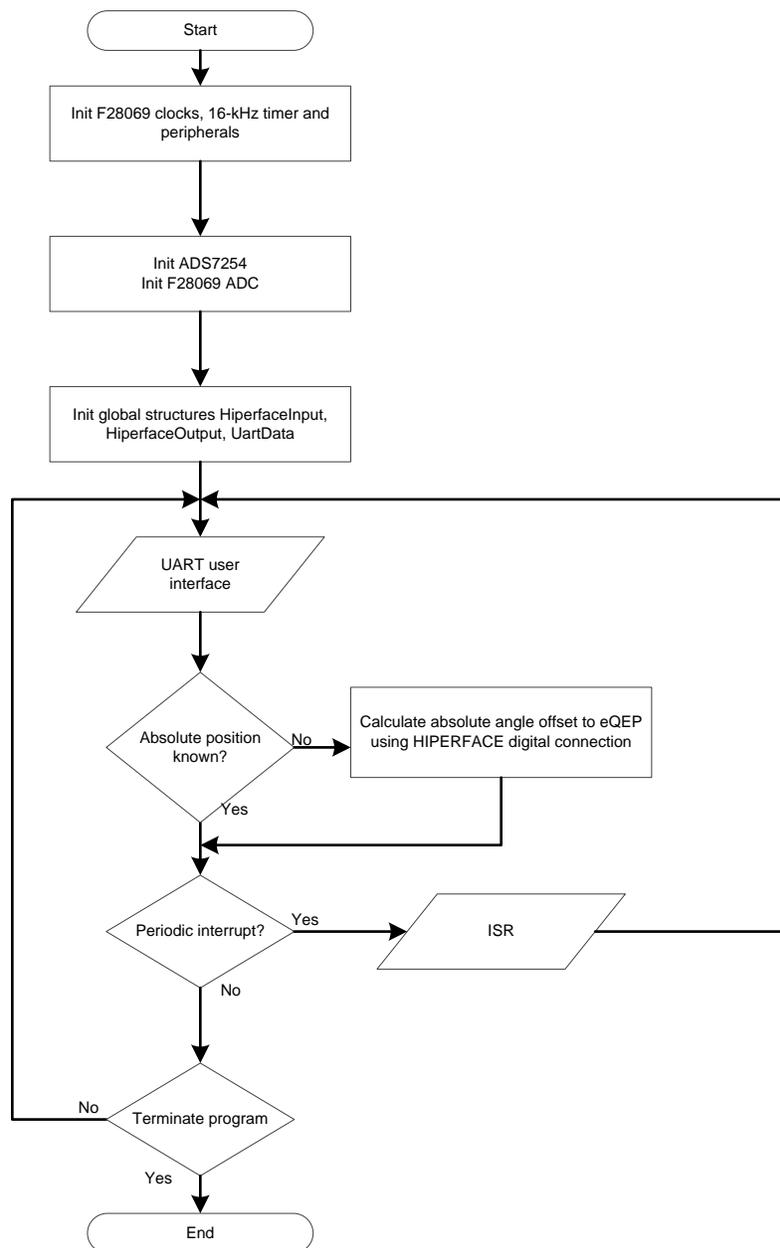

Figure 19. Flowchart of HIPERFACE Encoder F28069M Framework
- The F28069M framework, as outlined in Figure 19